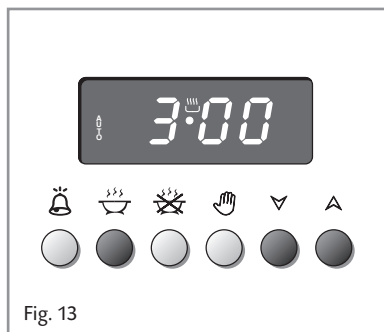

Fig. 13
1. Set the length of time you need to cook the food by pushing the  button and the  button to advance, or  to go backwards (Fig. 13).